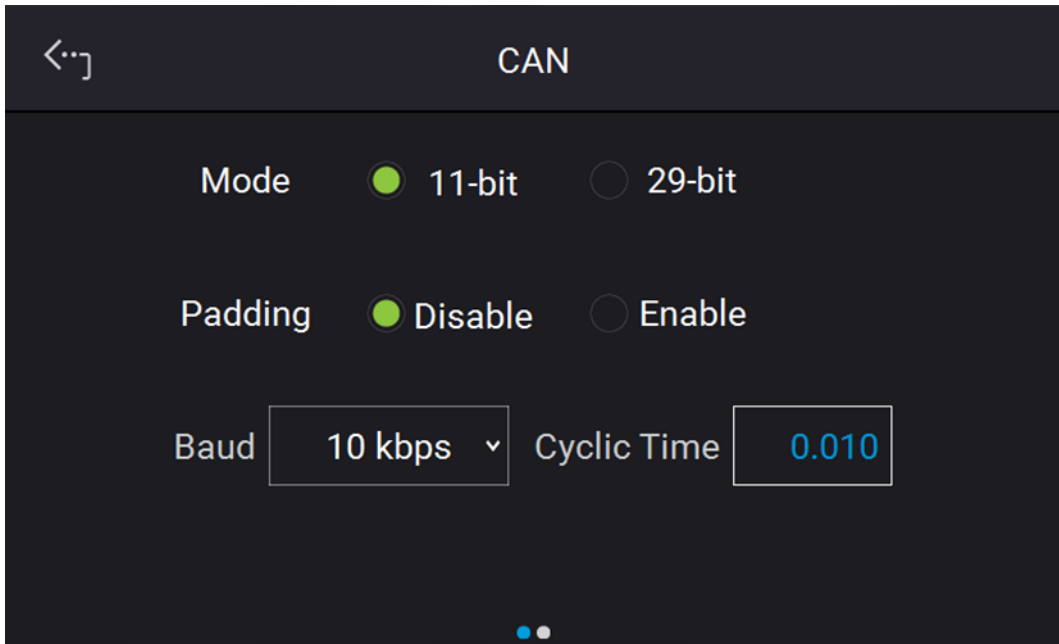
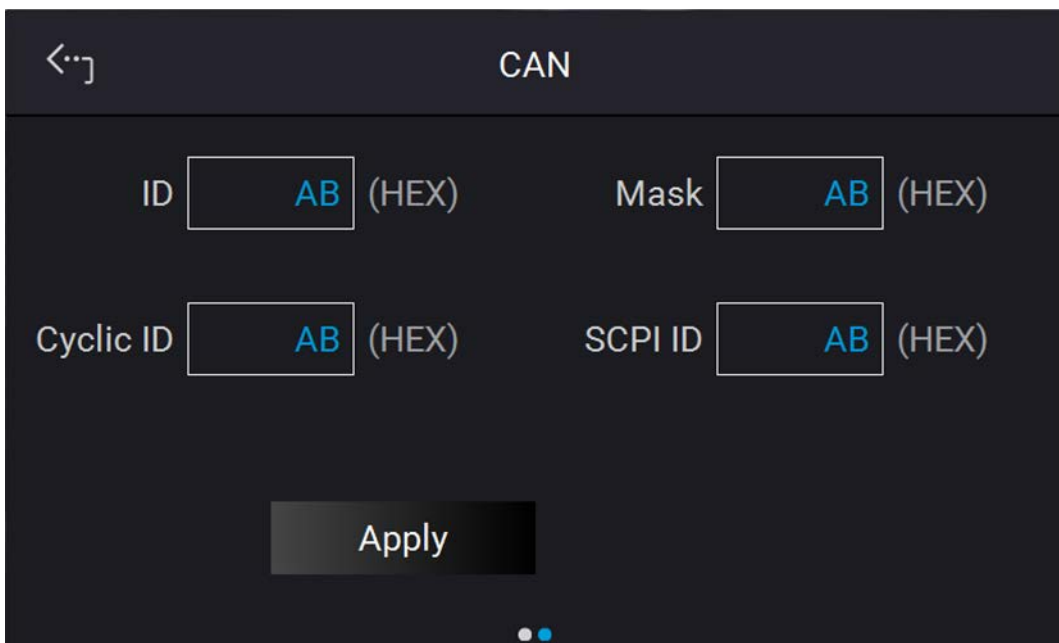

Figure 3-46
Figure 3-47
1. In the “Interface” page, select CAN as the screen shows in Figure 3-46 or Figure 3-47 shows.